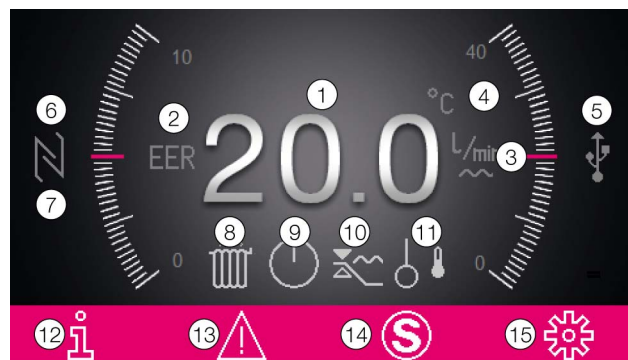

Fig. 41: Layout of the start screen
On the chiller display, the current volumetric flow passing through the bypass is shown to the right of the temperature reading (fig. 41, item 3).